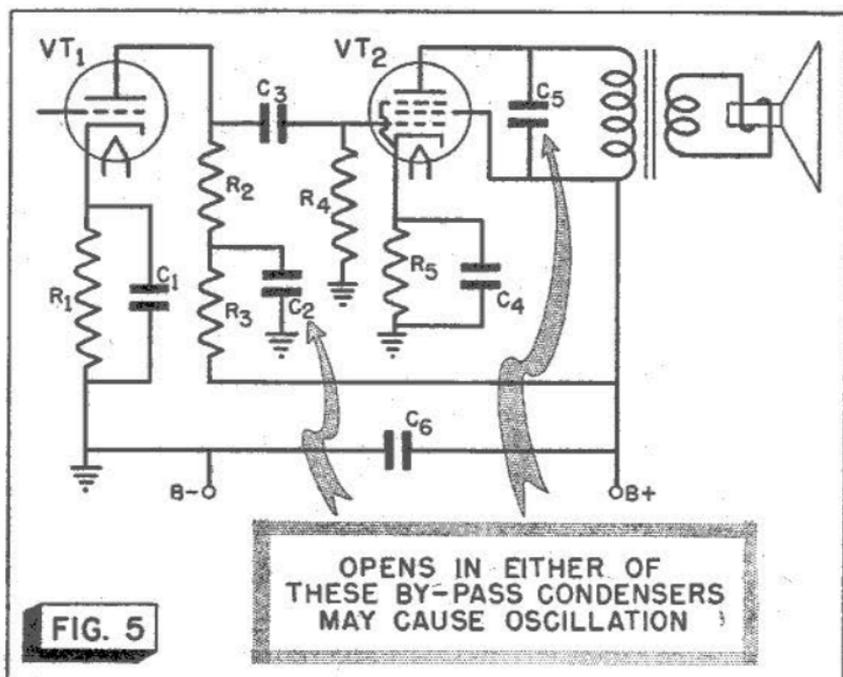

FIG. 5
**Audio Section Troubles.** Now, let's look at the typical audio amplifier shown in Fig. 5. There are two condenser troubles that may cause oscillations in this circuit.